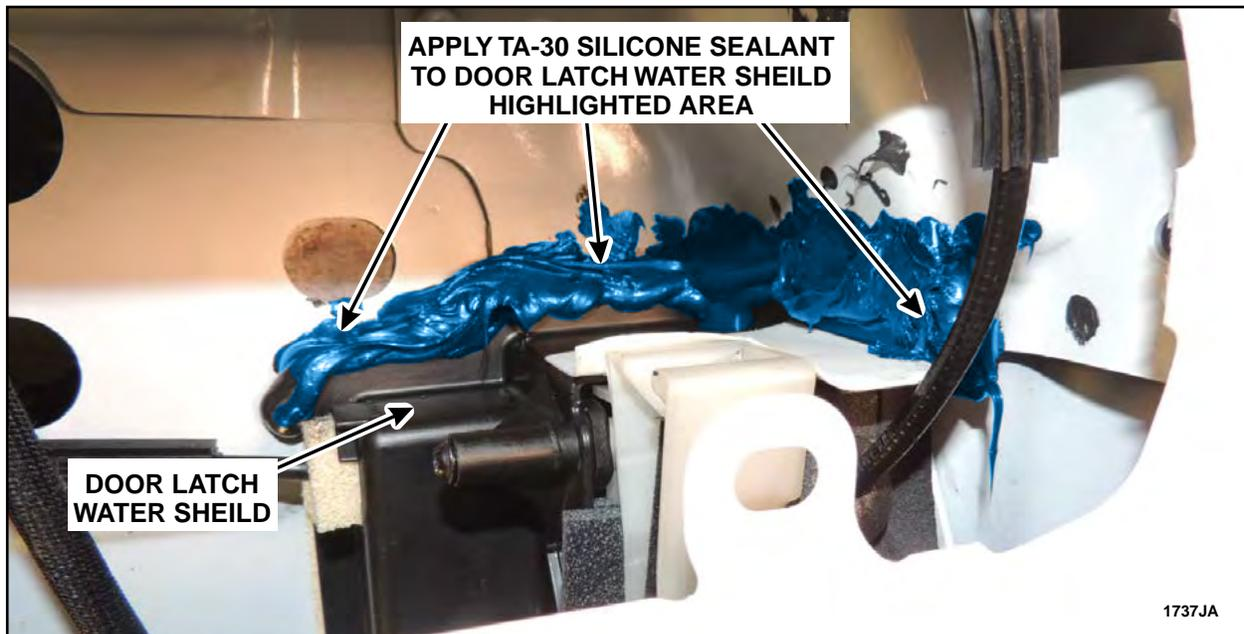

FIGURE 82
6. Apply Motorcraft® TA-30 silicone sealant in and over the mating area of the water shields to the door. Using light finger pressure smooth the bead of silicone. See Figure 82.